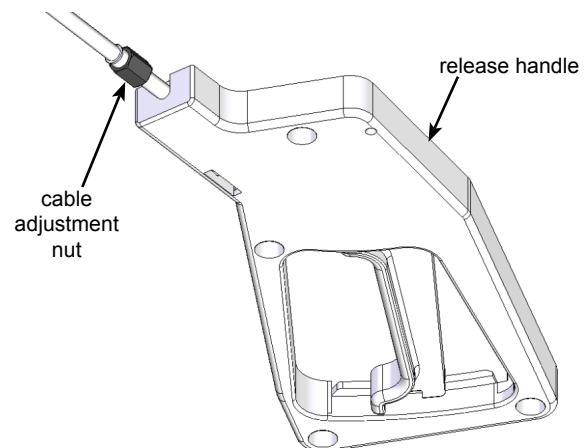

Figure 2C
1. To adjust, tighten or loosen the nut 1/2 turn. **Figure 2C.**